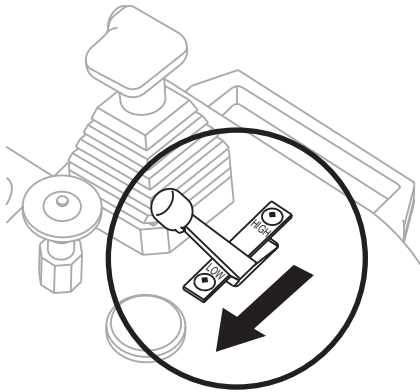

Figure 9. Engine Throttle Control Lever (Low)
4. Place the **engine throttle lever** (Figure 9) in the **LOW** position.